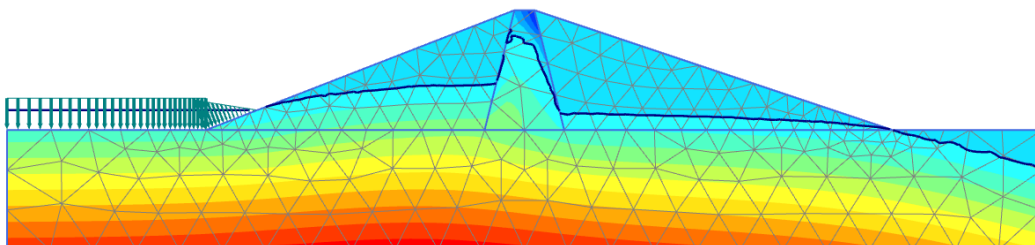

Figure 187: Pore pressure distribution, (p_{active}), after slow drawdown
- The pore pressure distribution after slow drawdown of the reservoir level is shown in Figure 187 (on page 210).